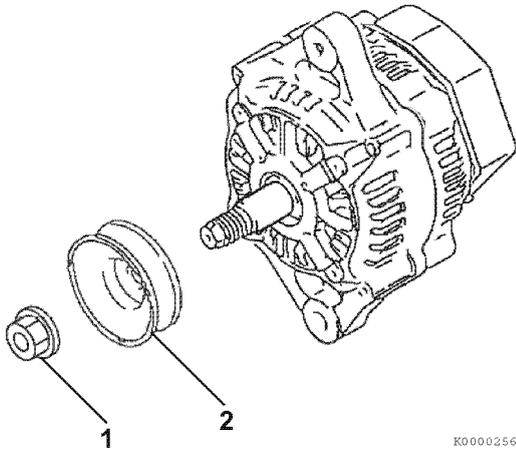

Figure 12-6
1. Remove the nut (1, **Figure 12-6**) from the shaft of the rotor assembly. Remove the pulley (2, **Figure 12-6**).